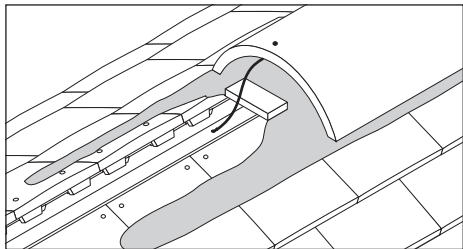

Fig. 14 – Typical bedded ridge with traditional galvanised security wire
- 1 Edge-bed ridge tiles onto the top course tiles with solid bedding at butt joints (Fig. 14).